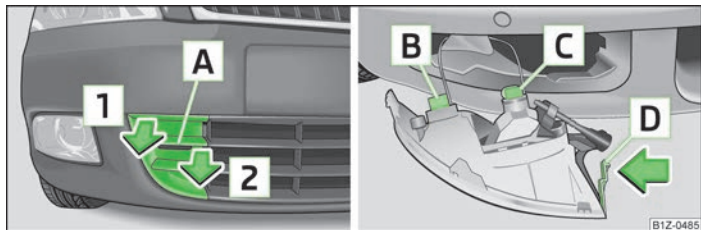

Fig. 164 Front bumper: Protective grille/removing the fog light
Bulb arrangement » Fig. 164.
- > Insert your fingers into opening » Fig. 164.
- > Insert your hand into the opening left by the cap and press the lug » Fig. 164 in the direction of the arrow.